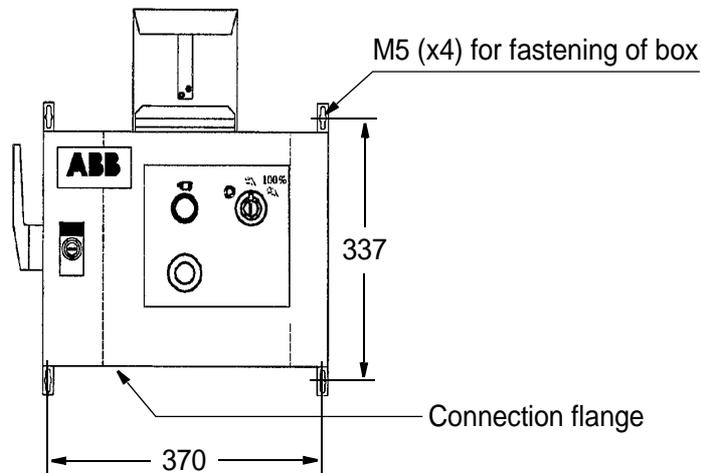

Figure 35 Operator's panel mounted in a box (all dimensions in mm).
- 183 External, mounted in a box. (See Figure 35.)